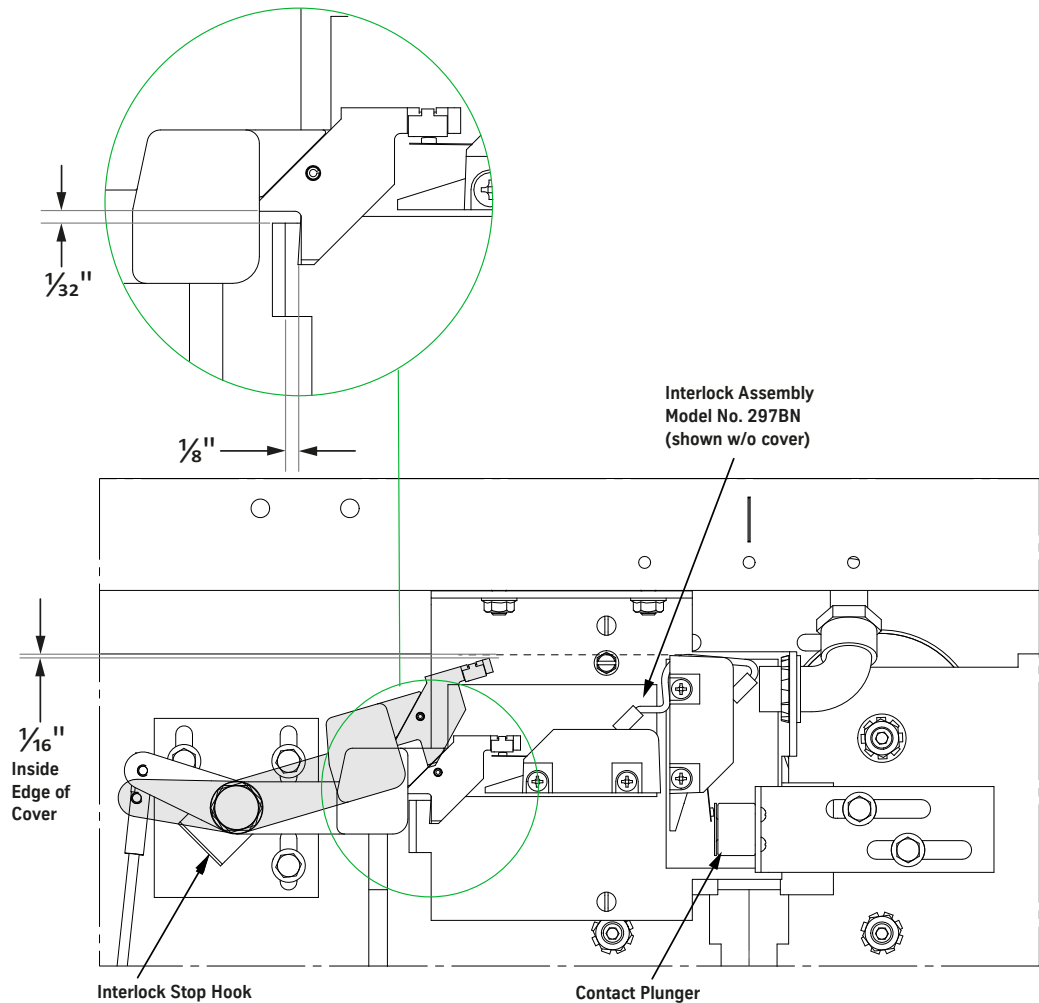

Figure 70 - Center Opening Interlock Adjustment
3. Close the doors, and verify the following. See Figure 70 on page 7-79.